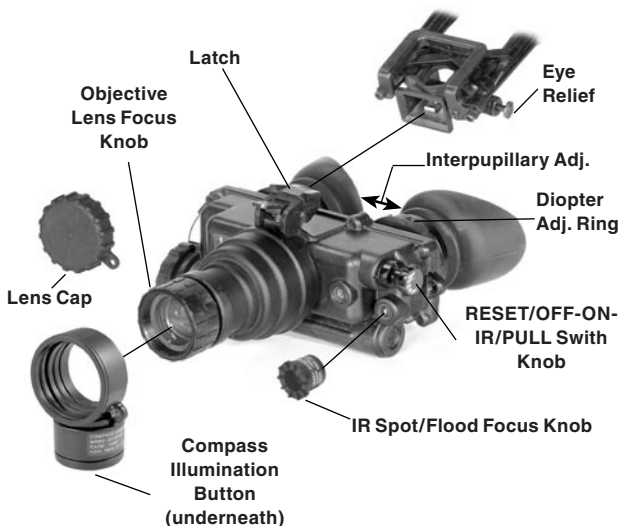

Figure 1-2. Mechanical Controls for PVS-7
A. Goggle Assembly. The goggle assembly (see Figure 1-2) consists of four primary sub-assemblies; a simple objective lens, a wired housing assembly, an image intensifier tube (IIT) assembly (not shown) and a rear cover assembly. The wired housing assembly contains a built-in battery compartment, attached battery cap and the RESET/OFF-ON-IR/PULL switch.
Mechanical adjustments of the PVS-7 allow for physical differences between individual operators using the system. The goggle's functions include the power switch, interpupillary adjustment, release latch, eye relief adjustment, diopter adjustment, IR spot/flood focus (optional), compass illumination (optional), and objective lens focus (optional). The mechanical controls are identified in Figure 1-2.